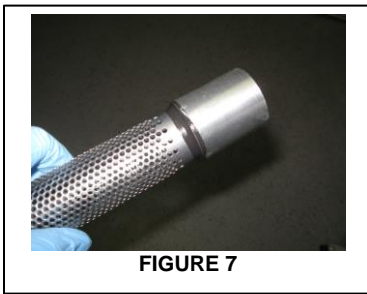

FIGURE 7
12. Clean any contaminants off of the inner core and apply high temperature RTV silicone to the outside end of the inner core. Identify the end of the inner core spacer with the deeper recess, this end must be installed onto the inner core or the assembly will not fit together properly. Slide the end of the inner core spacer onto the inner core and clean up excess RTV silicone. **FIGURE 7**